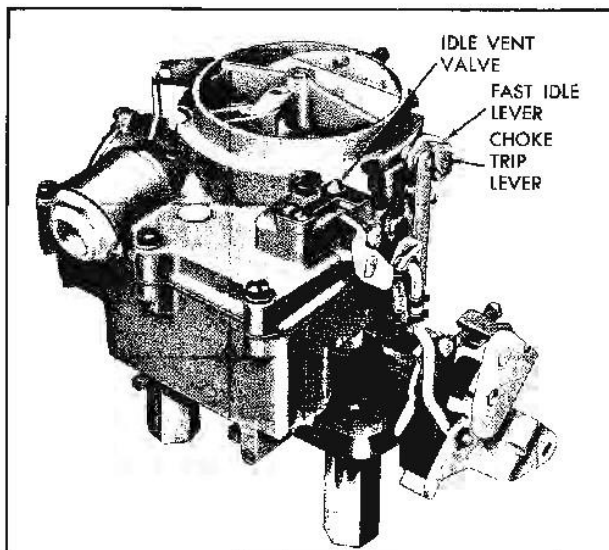

Fig. 6B-62 Carburetor Linkage Installed
2. Bend the tang on the fast idle lever so that the end of wire gauge or drill (.070" ± .010" automatic, .080" ± .010" synchromesh) just fits between the inner side of the air horn and the upper edge of the choke valve (Fig. 6B-63).